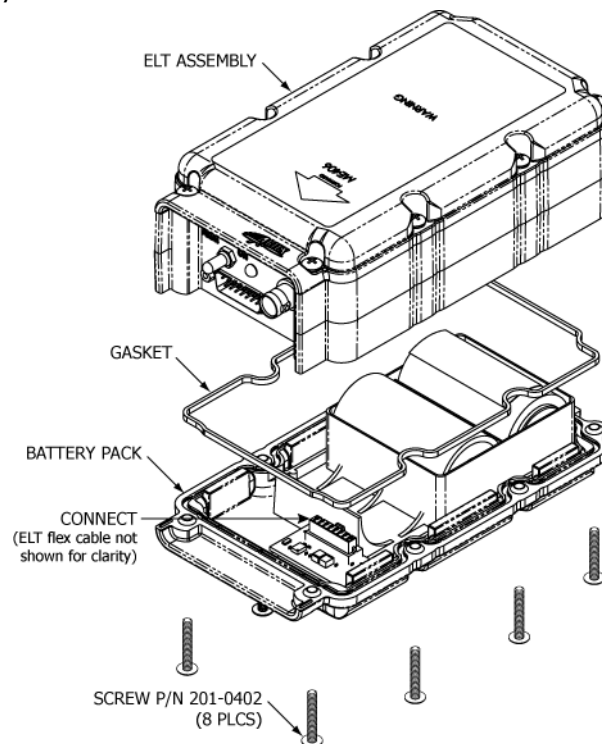

Figure 26 Battery Pack Installation
- 2) See Figure 26 Battery Pack Installation